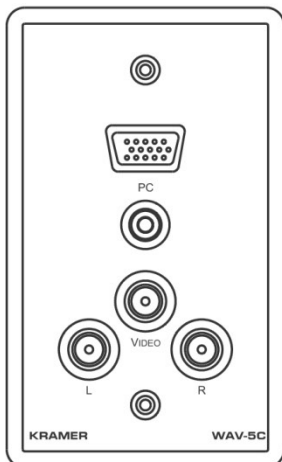

Figure 2: WAV-5C
The **WAV-5C** is a 1 gang wall plate insert (see Figure 2) with pass through connectors and 5 cables with BNC connectors (colored red (R), green (G), blue (B), black (Vertical sync) and yellow (Horizontal sync)) on the rear included for: